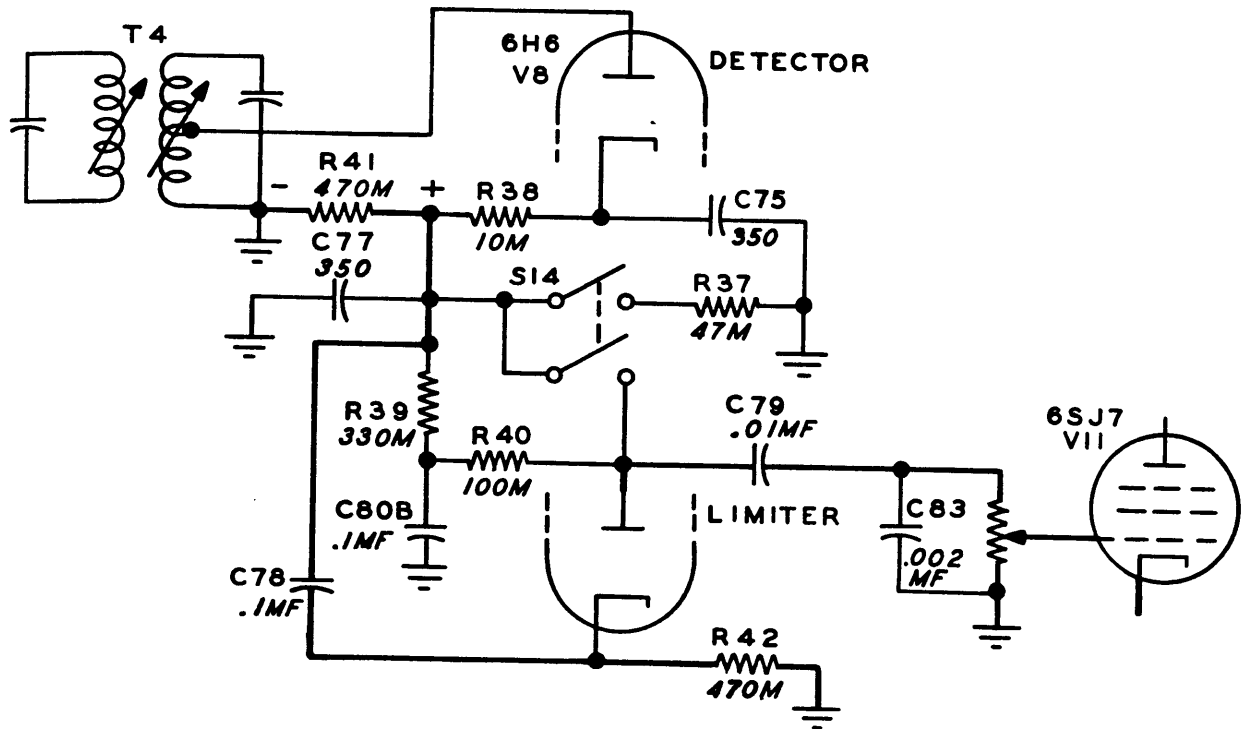

Figure 2-2 Noise Limiter Circuit
- 2-10. NOISE LIMITER. - Refer to figure 2-2. One half of V-8, a type 6H6 tube, is used as a noise limiter. The circuit employed here is a new circuit developed for military use. In this circuit the negative half of the audio wave is automatically clipped at approximately 35% modulation by virtue of the heavy value of AC load impedance in the detector circuit. This eliminates the noise peaks from the negative half of the audio wave. However the noise peaks still appear on the positive half of the audio wave so the automatic noise limiter is inserted in the circuit to remove these. This limiter is a series type limiter in that it is placed between the detector and the first audio stage. In operation, the plate of the noise limiter tube has a voltage, taken from the detector load resistor, placed upon it. Since this voltage is positive with respect to the limiter tube cathode, current flows through this portion of the tube. This current is modulated at the cathode by audio from the detector through capacitor C78, thus the audio appears at the plate of the limiter tube from where it is fed to the grid of the audio amplifier tubes. Since the positive audio peaks appear as positive impulses across the detector diode load, the audio impulses through C78 are positive or in opposition to the negative potential on the cathode of the noise limiter tube. Whenever these positive audio impulses get high enough in amplitude to cancel this negative cathode potential, the tube ceases drawing plate current and the audio is interrupted. The value of plate voltage applied to the limiter plate can be set by varying the sizes of the circuit components therefore the cut-off point can be set at any degree of modulation desired. In the